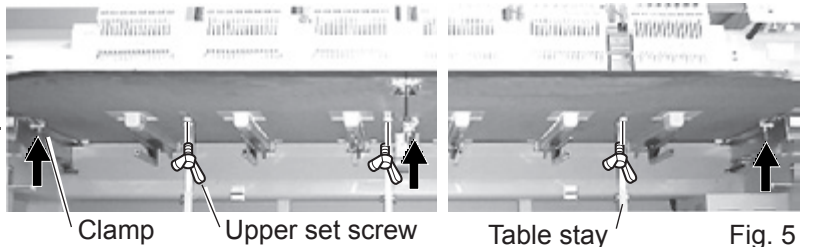

Fig. 5
5. As shown in Fig. 5,6, shut all clamps.
6. As shown in Fig. 5, insert Table prop B and tighten Knob bolts. Tighten middle set screws which are inserted as step 3.